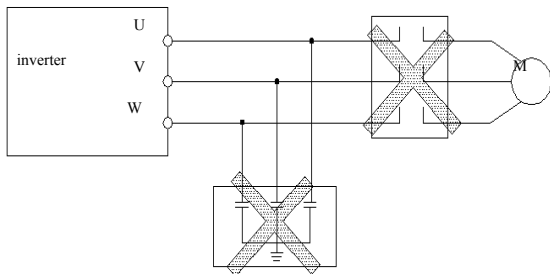

Fig.3-3 Forbid to use contactor and absorbing capacitor
- (1) Assure power be cut off completely for above 10 minutes before wiring, otherwise there is danger of getting electric shock.
- (2) Forbid connecting power wire to output U, V, W of the inverter.
- (3) If there is current leakage inside inverter, when current leakage greater than 5mA for medium & big power inverter, inverter and motor must be earth grounding for safety assurance, and the diameter of earth grounding copper cable is greater than 3.5mm², resistor less than 10Ω.
- (4) Before shipment compression resistance test of the inverter is passed, so users should not conduct compression resistance test again.
- (5) Do not add absorbing capacitor or other resistance-capacitor absorbing device between inverter and motor; also do not add electromagnetic contact, show as Fig.3-3
- (6) To provide inverter over-current protection in output side and convenient maintenance under power off, it should be connected to power source through relay.
- (7) Relay, input & output circuit wiring (X1~X7, Y1, Y2/DO, TA, TB, TC, A11, A12, AO, 485A, 485B) should select greater than 0.75mm² stranded wire or shielding wire. One end of the shielding layer hang in the air, and the other end connect to inverter earth grounding terminal, connection wire shorter than 20m.